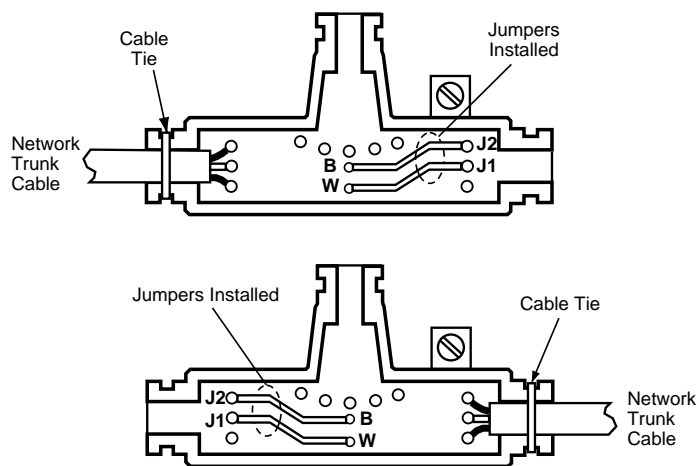

Figure 19: Taps at End Sites
At the two end sites on the cable section, install one length of trunk cable and connect it to either side of the tap. Install the two internal jumpers between the center posts and the lower two posts at the side of the tap opposite from the cable. Figure 19 shows the connections for taps at end sites.
- The tap at each end drop site on each section of the network has its two internal termination jumpers connected. They are connected between the two center posts and the W and B posts at the side of the tap opposite from the trunk cable connection, as shown in Figure 19 on page 28.